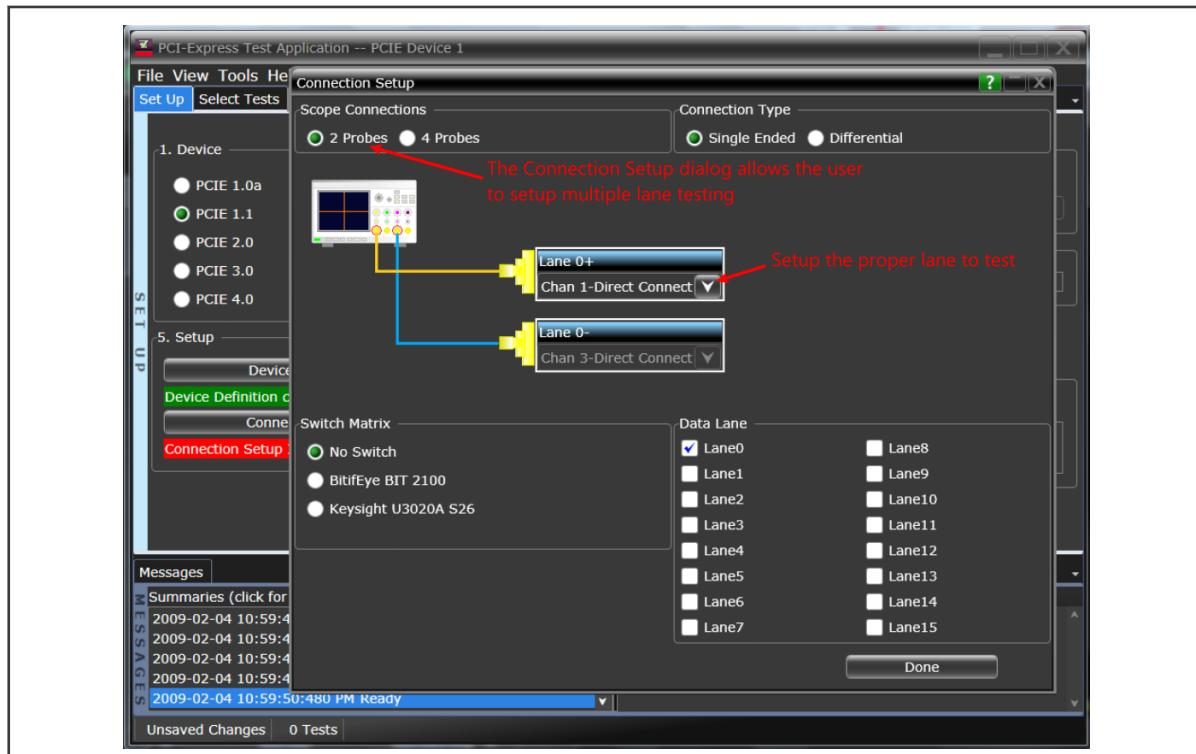

Figure 15. Setup settings in the PCIe test software - Connection Setup
- d. In the **Connection Setup** menu, select the proper lane, probes, and connection line based on connection for test fixture, as shown in Figure 15.